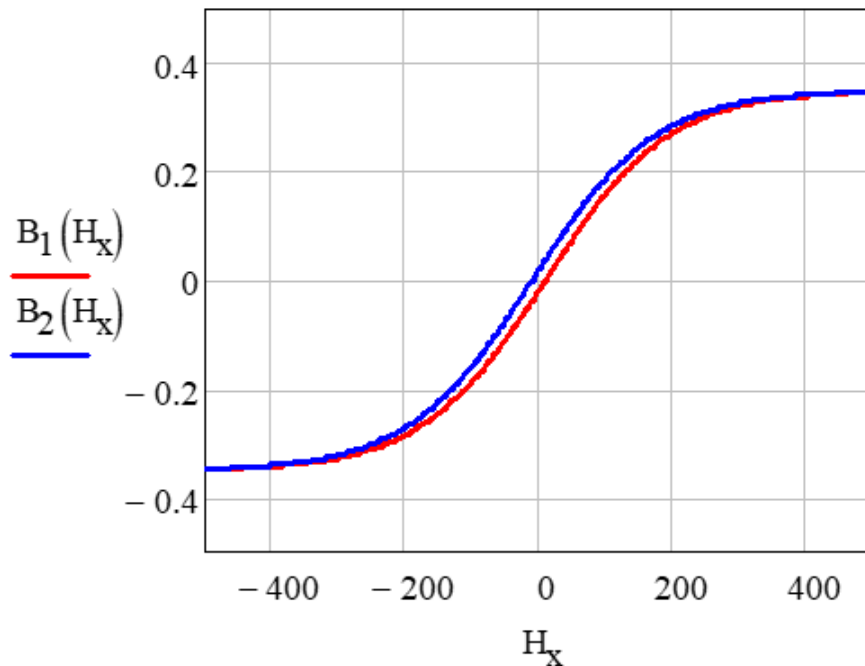

Fig. 1. Hysteresis loop for the example inductor core.
Using equations (1), (2) and (6), repeated below, we can build the hysteresis loop for this example core, as shown in Fig. 1.